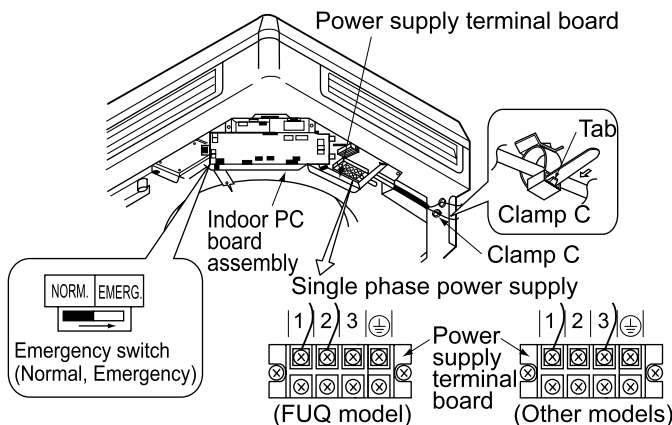

Fig. 31
- Remove the control box lid and change the emergency switch above the PC board assembly of the indoor unit from "NORM." to "EMERG.". Connect the single-phase power supply and earth wire to the power supply (50Hz 220-240V) terminal board and confirm drain operation. Be sure to change the switch before turning on the power. (Refer to Fig. 31)